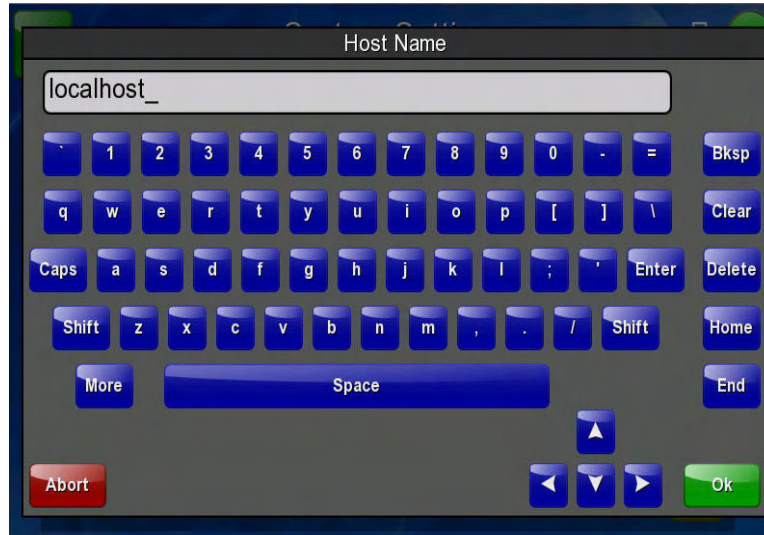

FIG. 21 Host Name keyboard
4. Press the optional *Host Name* field to open the *Host Name* keyboard (FIG. 21) and enter the host name information. The default name is "localhost".